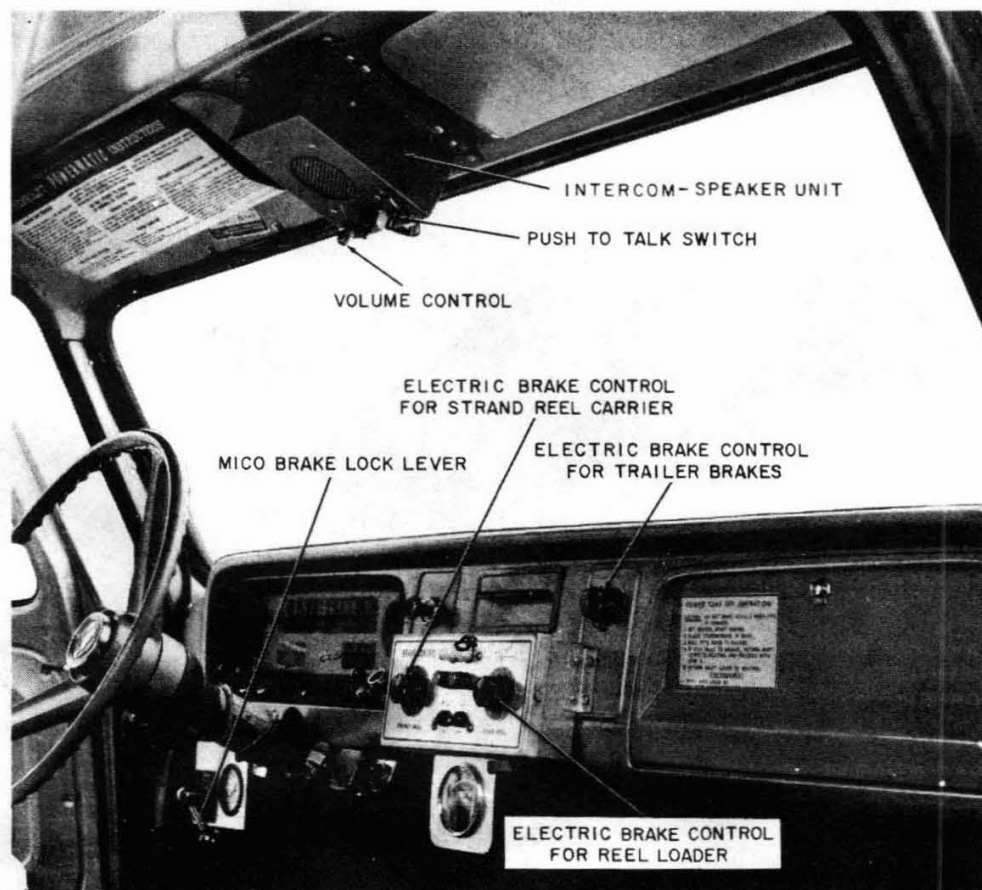

Fig. 4—Controls in Truck Cab
**2.07** To activate the communication system between the lift operator and truck driver, rotate the "on-off" volume control button located on the cab speaker unit. To transmit from the cab, depress the "push-to-talk" switch. For operator safety and convenience, the unit located on the end of the boom near the platform is a hands-free transmit-receive speaker unit. The truck cab speaker unit is shown in Fig. 4.